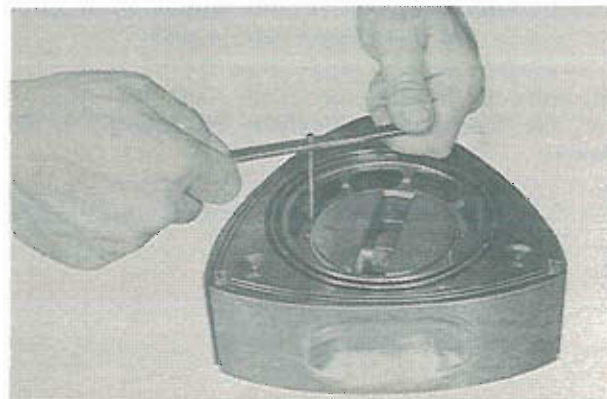

Fig. 1-61 Making of threads
7) Thread the hole with a M4, P=0.70 mm tap, as shown in Fig. 1-61.